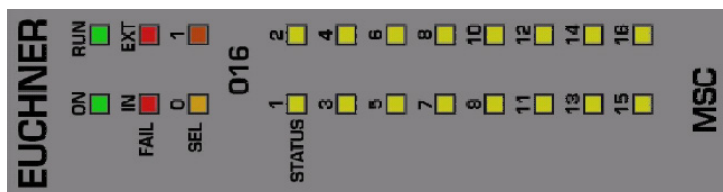

Figure 25:
8.3.13. Module O16 (Figure 25)